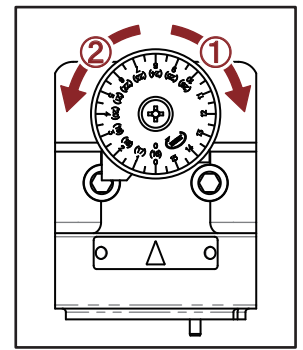
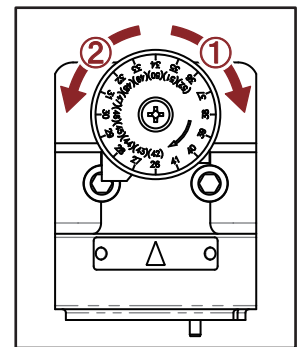

Fig. 8-1
Fig. 8-2
- Right Positioning Shelf : $\Phi 12.0$ mm - $\Phi 26.0$ mm (Fig. 8-1)
- ① Turn it by clockwise to the end.
- ② Turn it by counterclockwise at "0".
- Left Positioning Shelf : The scale adjust over "26" (Fig. 8-2)
- ② Turn it by counterclockwise at "26".